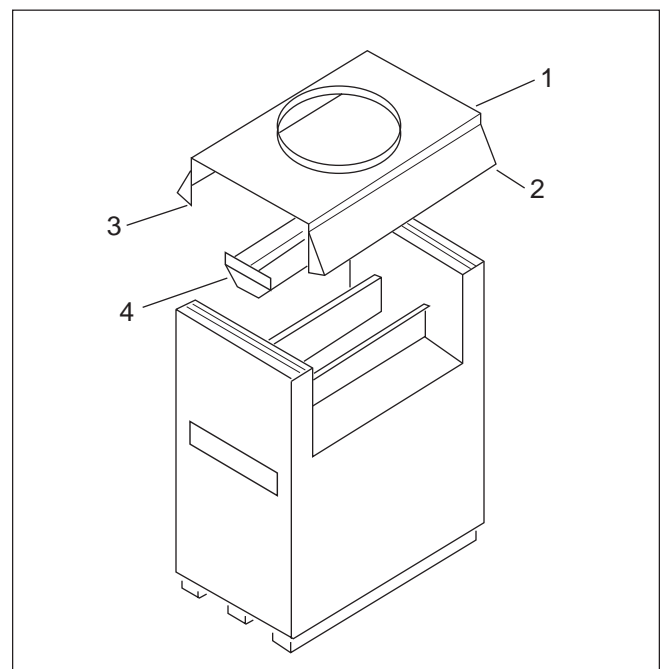

Figure 12. Removal of Indoor Parts.
Please read the following instructions with Figure 12.
1. Remove top panel, (1) (see Figure 12).
2. Remove front and rear upper panels, (2) (see Figure 12).
3. Remove front and rear wings LH & RH, (3) (see Figure 12).
4. Remove diverter assembly, (4) (see Figure 12).